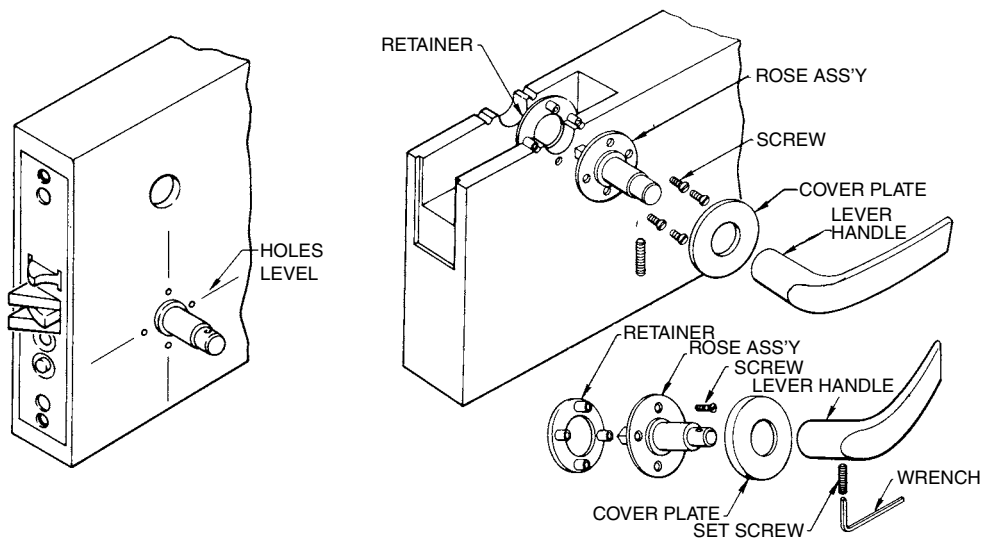

Figure 13.36 Installing lever handle.
2. Place the rose assembly spindle into the lock hub. The label shows the top and latch edge. Spot four screw holes through the assembly plate (Fig. 13.36). Make sure that the latchbolt operates freely. Drill holes very carefully.